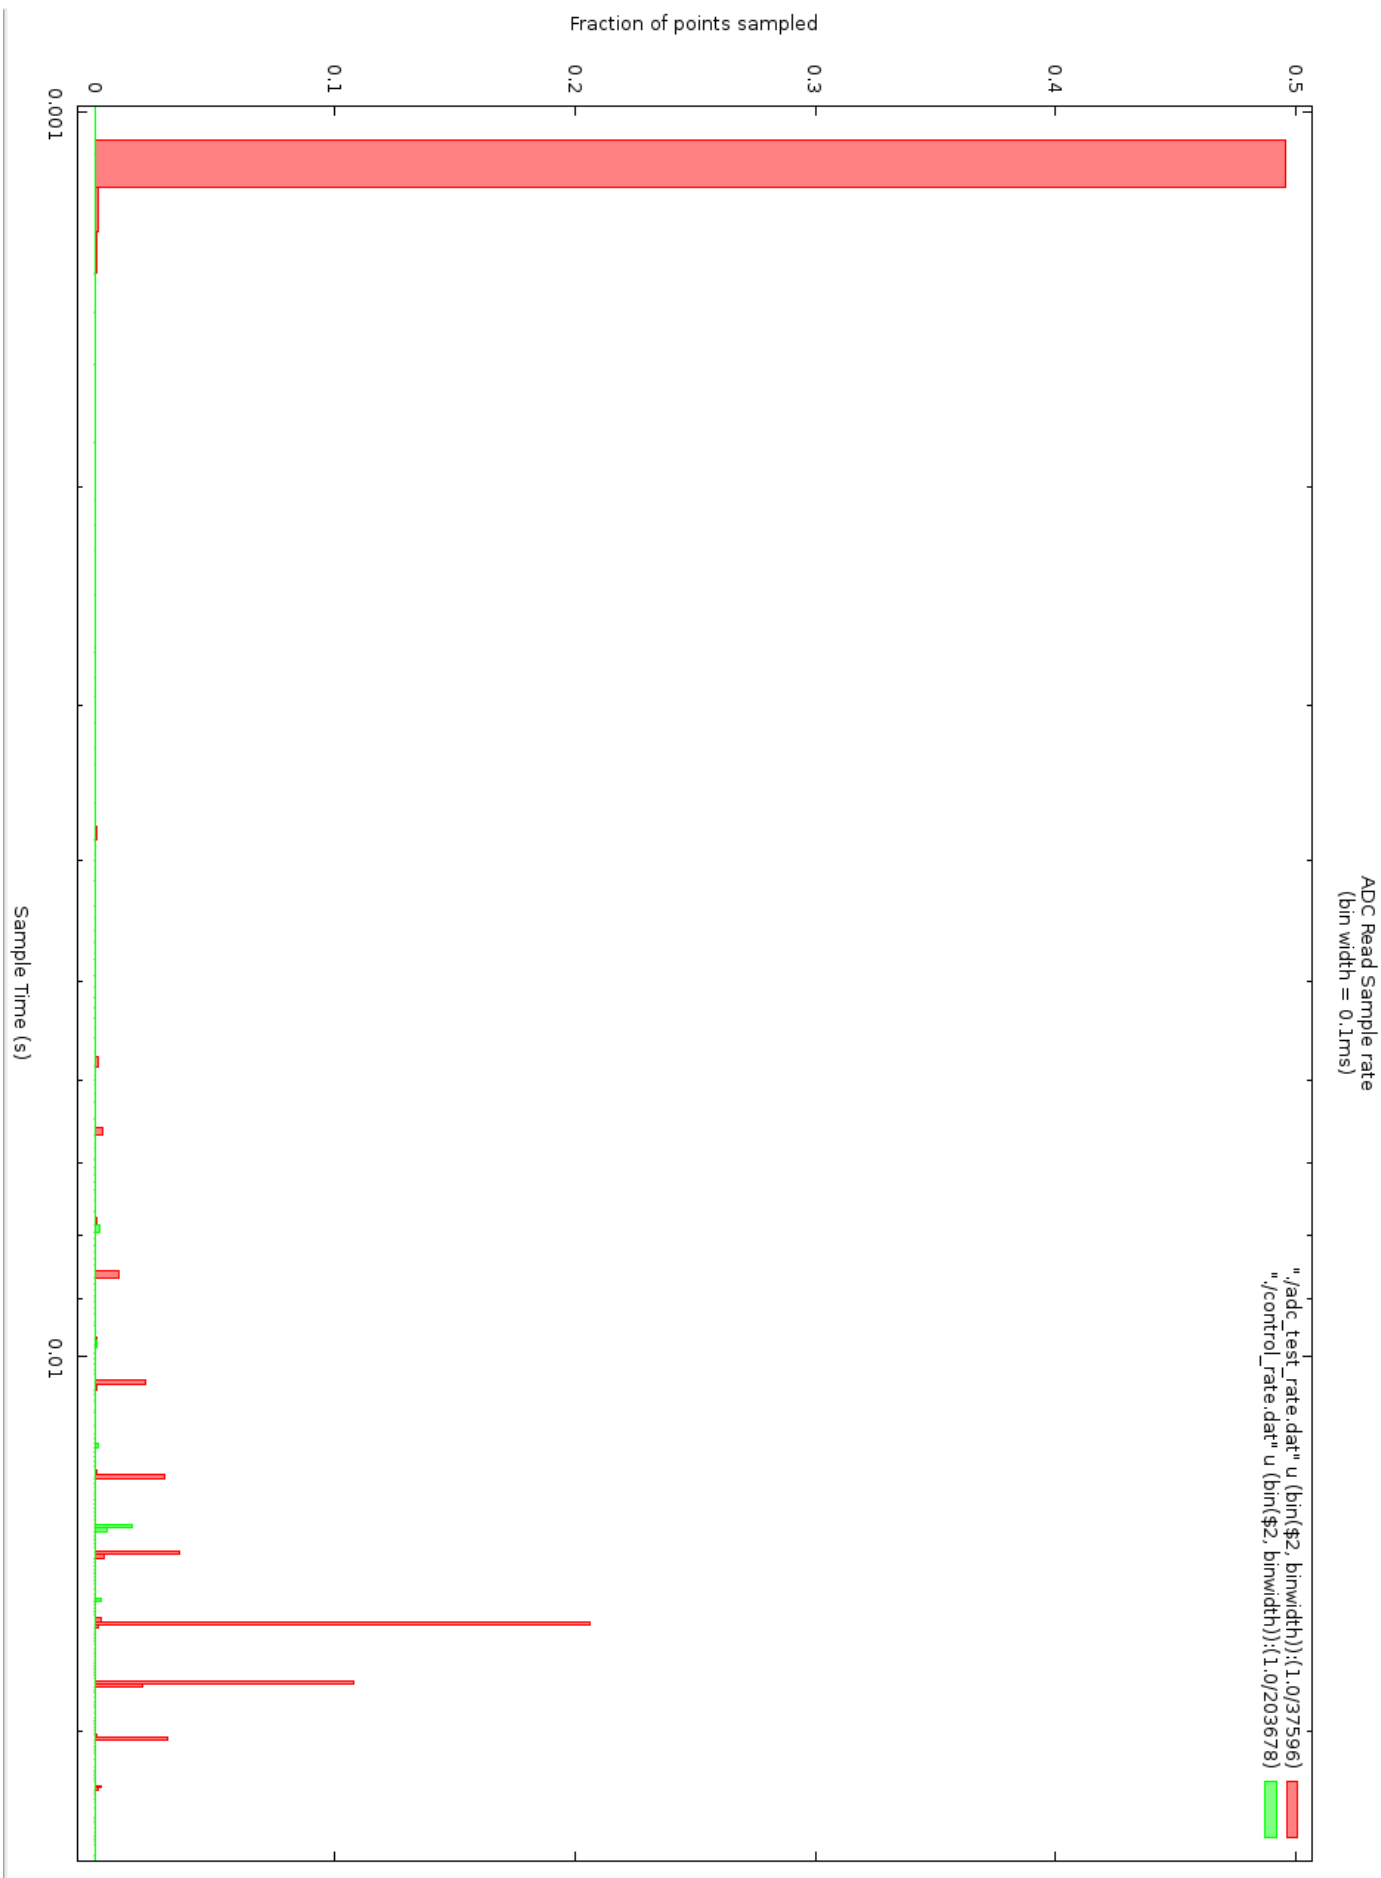

Figure 1: Histogram of sample times using ADC_Read. Note the logarithmic x axis.
- ii. With ADC_Read - Average sample rate is 100Hz with a lot of variation - Figure 1.